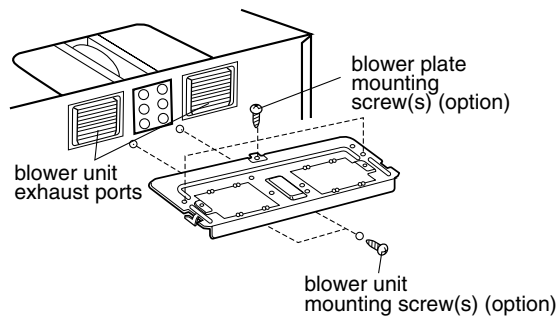

Figure 17
7. Reattach the blower plate to the top of the cabinet as it was originally assembled. Attach with blower unit mounting screw(s) and then blower plate mounting screw(s). See **Figure 17**.